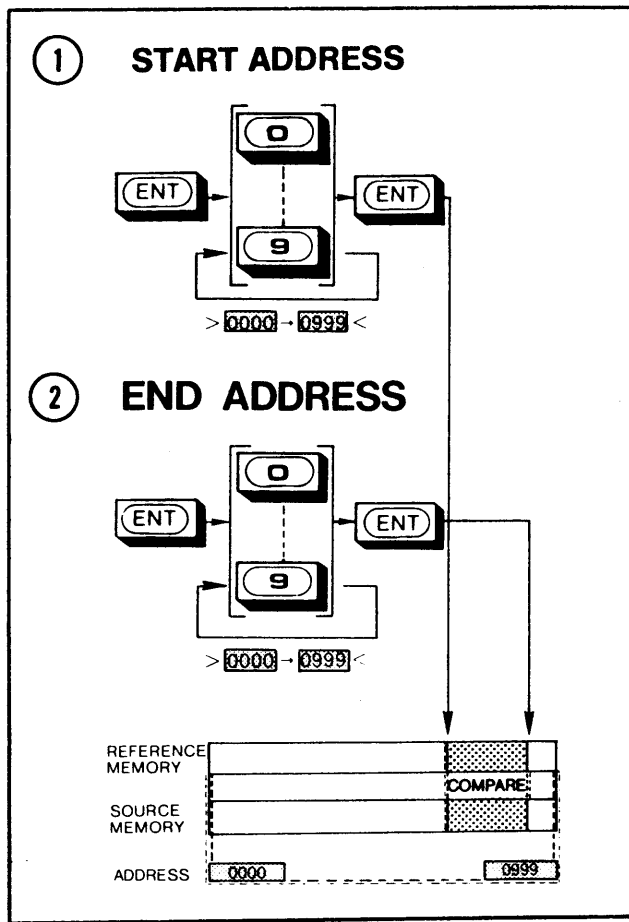

FIGURE 5-24. RANGE OF COMPARE
**5.3.5.1 Range of Compare.** The "START ADDRESS" ① and "END ADDRESS" ② field headings are used to enter the range of memory comparisons. See Figure 5-24 for operating procedures.